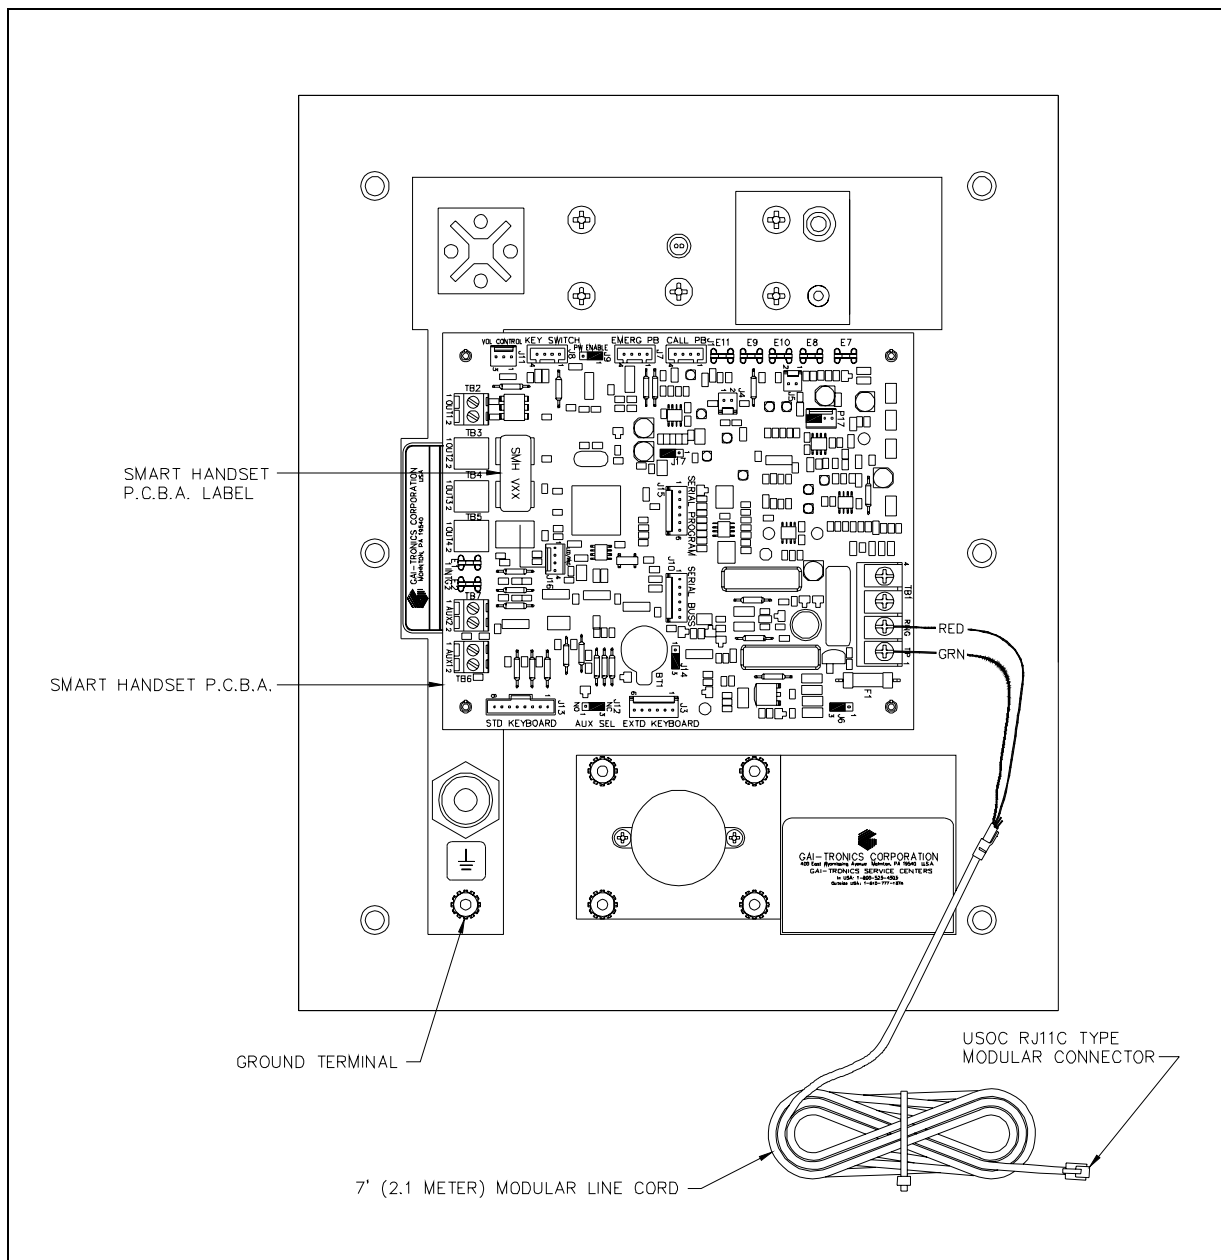

Figure 3. Model 276-003 and 277-003 Printed Circuit Board Detail
1. Align the holes of the new PCBA with the snap-on nylon standoffs in the telephone, maintaining proper orientation. See Figure 3.